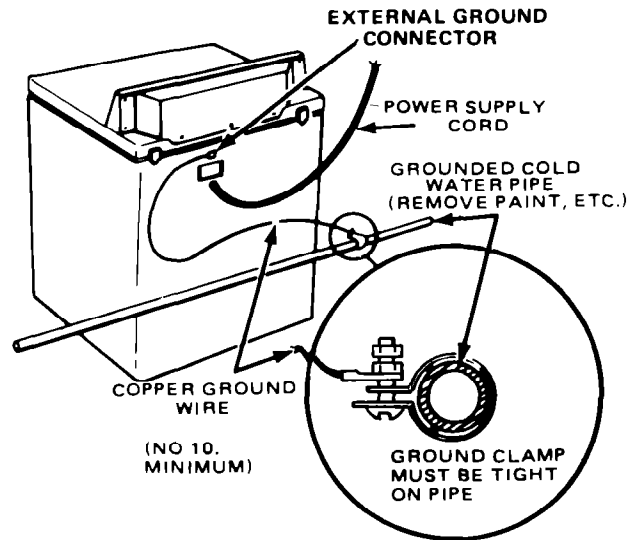

Figure 4
3. Connect the free end of the external ground wire to a grounded cold water pipe* by means of the clamp on the free end of the ground wire. Do not connect the power supply cord to electric power supply until appliance is permanently grounded. See Figure 4, Page 2.